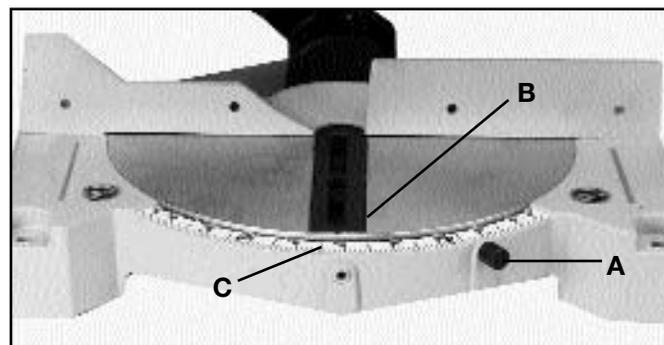
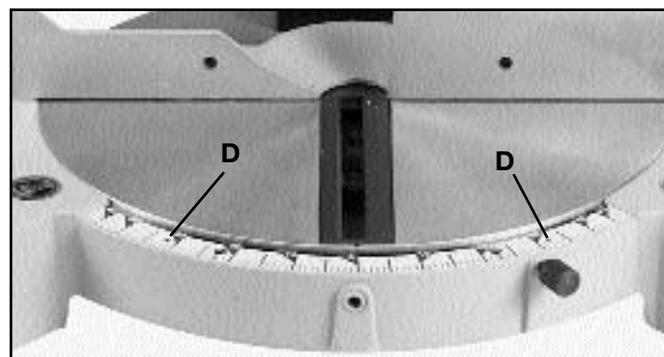

Fig. 13
Fig. 14
Your compound miter saw will cut any miter angle from a straight 90 degree cut-off to 45 degrees right and left. Simply loosen table lock knob (A) Fig. 13, and using the switch handle as a grip, rotate the cutting arm until the pointer (B) aligns with the desired setting on the miter scale (C). Then tighten table lock knob (A).
**⚠ WARNING: LOCK KNOB (A) MUST BE TIGHTENED FOR ALL CUTTING OPERATIONS.**
Your compound miter saw contains positive stops for the table at the 0, 22-1/2, 30 and 45 degree right and left positions. Two triangle indicators (D) Fig. 14, are also provided to rapidly set the table at the 31-5/8 degree right and left miter angle for cutting crown moulding, as explained later in this manual.